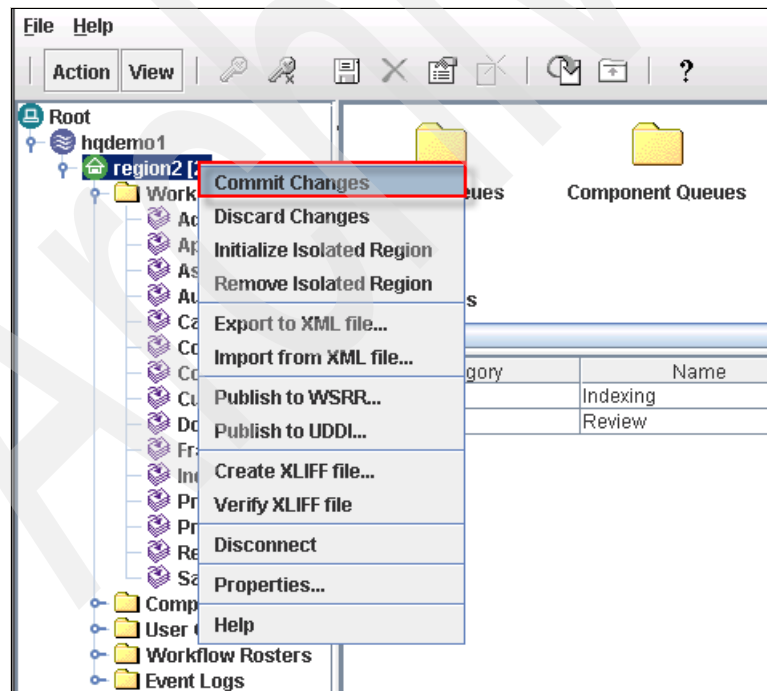

Figure 7-34 Selecting Commit Changes
8. Right-click the region name and select **Commit Changes** (Figure 7-34).